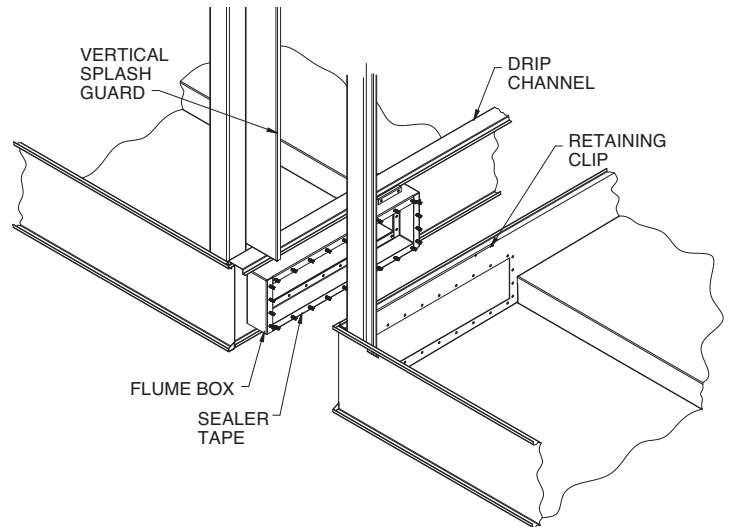

Figure 3 – Equalizer Flume Connection,
2. Clean the flanges on the equalizer flume on the end to be field connected. Apply a layer of sealer tape on the flange centered between the hole centers and the outside edge. Remove paper backing strip from the sealer tape (see Figure 3).